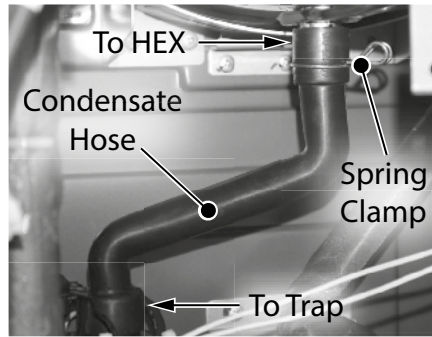

Figure 6 - Condensate hose removal
- 20 Disconnect the black hose from the top of the condensate trap and then from the back of the heat exchanger (HEX). Compress the spring clamp and pull it down along with the black hose. Remove it and dispose of properly. See Figure 6.